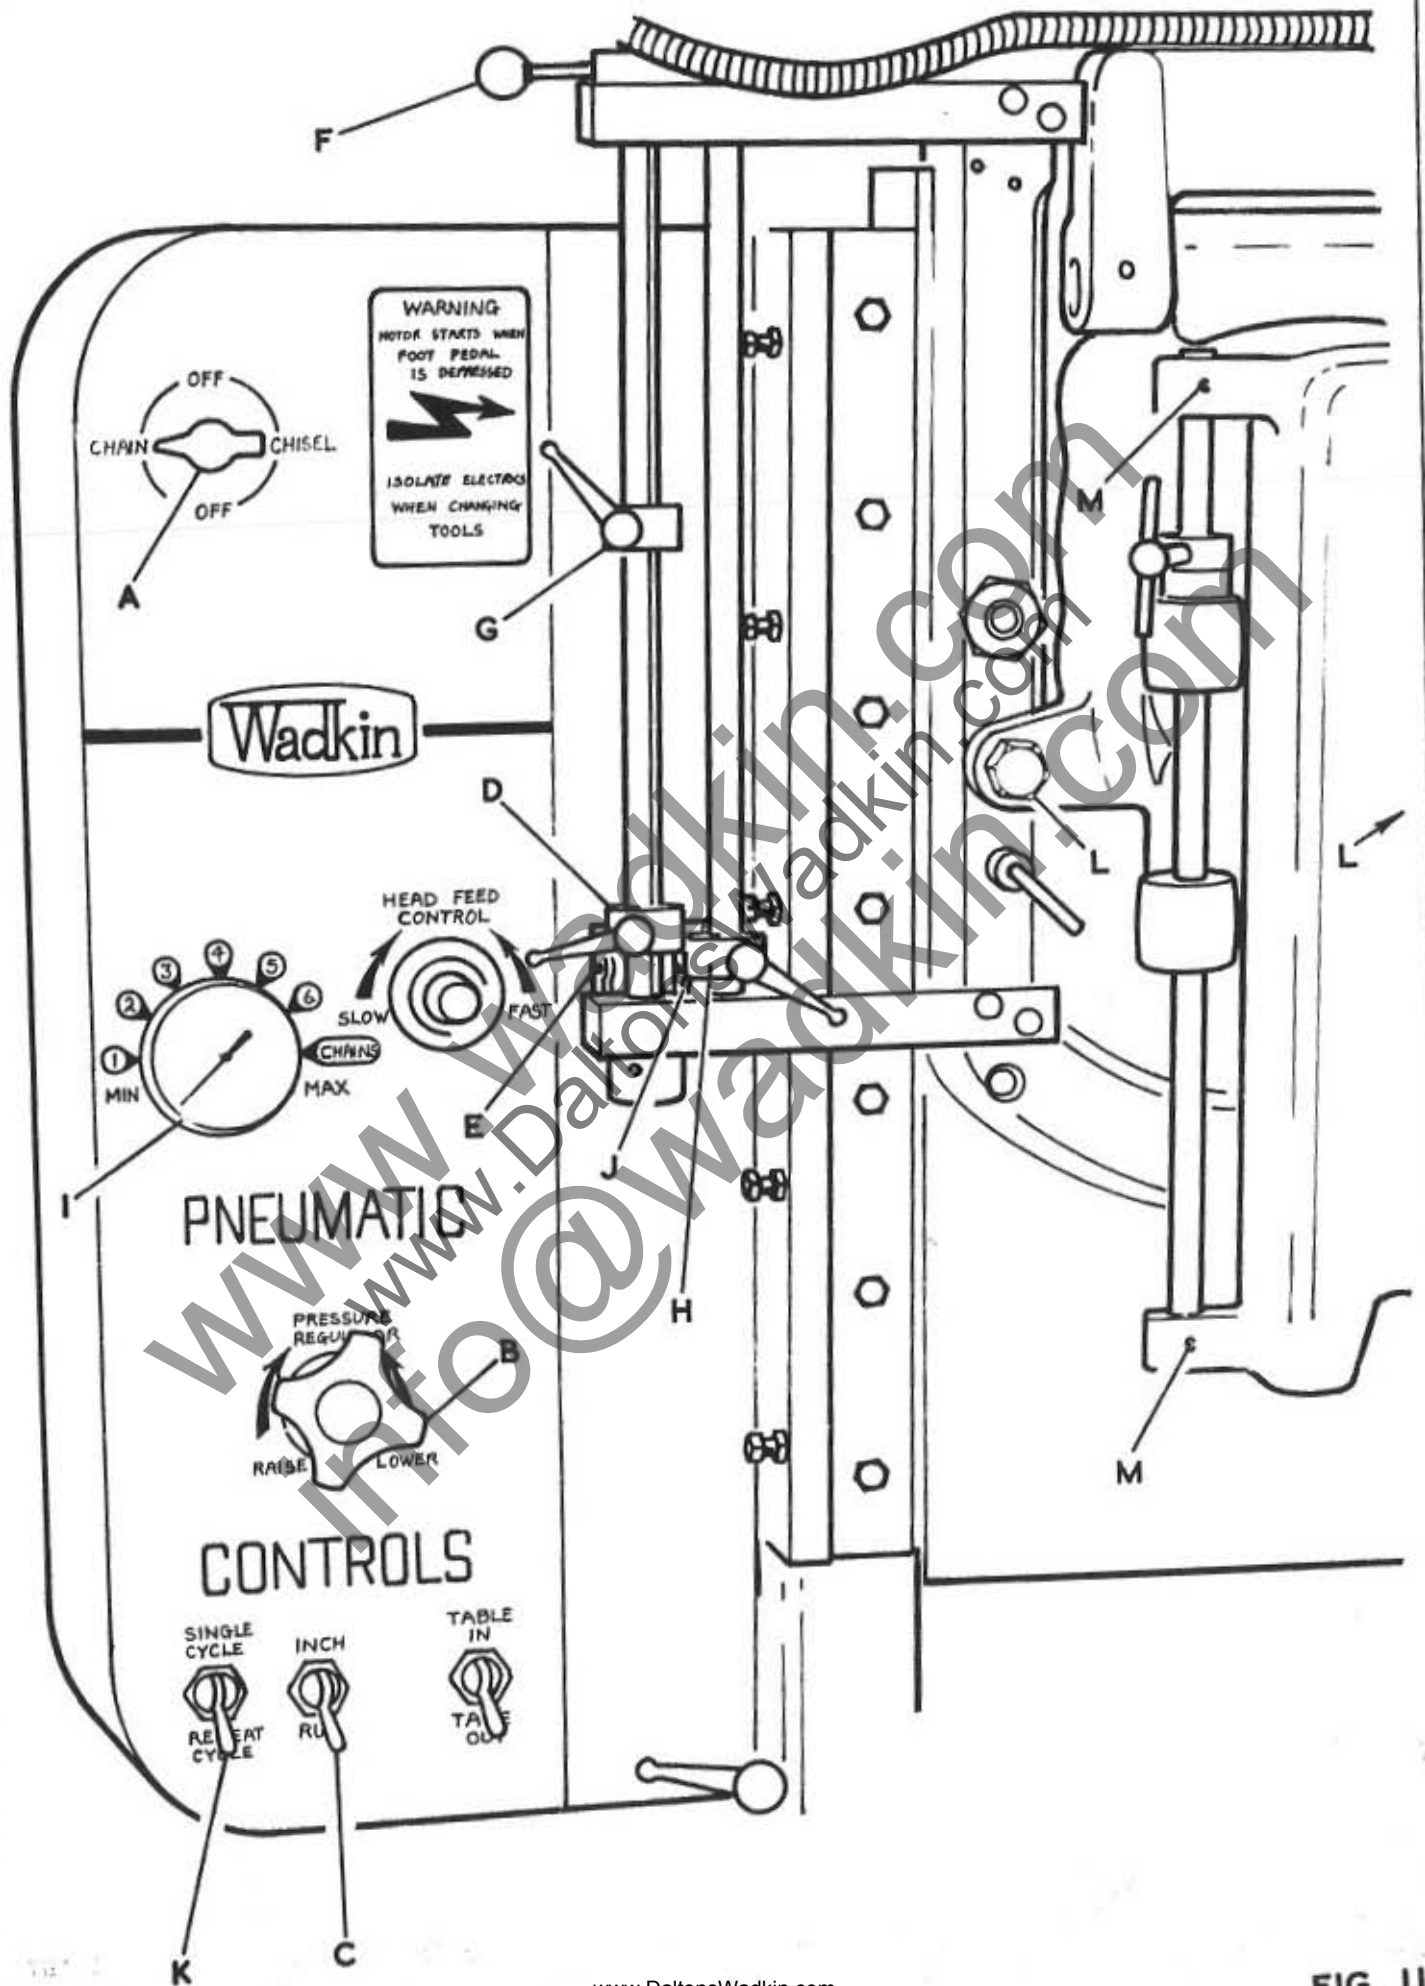

FIG 11
4. Swing head round to chain position and lock with two hexagon head bolts "L" as in Fig.11
5. Fit chain guard swivel bar complete with chain guard and tighten grubscrews "M" in Fig.11
3. With switch "C" in Fig. 11 in "INCH" position, move head to lowest point of travel. Note:- Switch on side of machine must be in "chain grinding" position to ensure that the motor keeps running during the grinding operation. When operation is finished switch should be returned to mortising position.